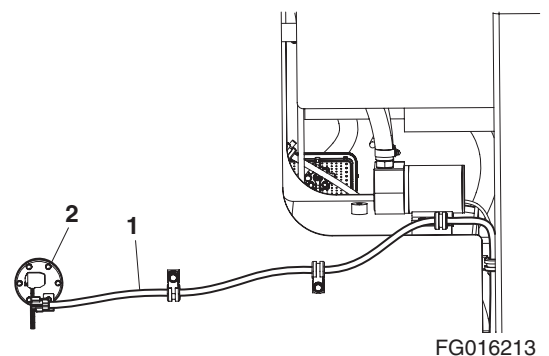

Figure 16
- A. Remove the hose (1, Figure 16) from fuel feed pump (optional).
- B. Remove the sensor harness (2, Figure 16) from fuel tank.